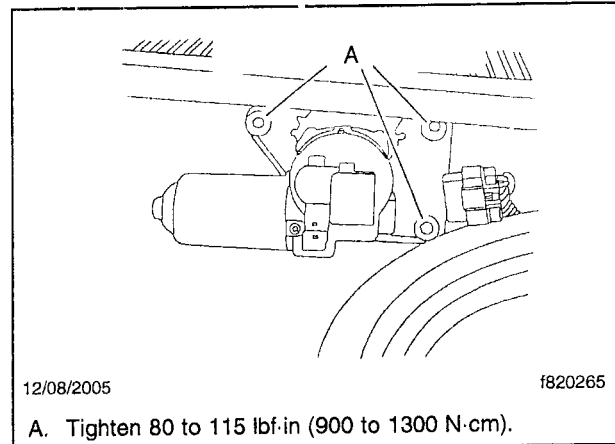

Fig. 7, Tightening Windshield-Wiper Motor Bolts
11. Tighten the bolts 80 to 115 lbf-in (900 to 1300 N·cm). See **Fig. 7**.